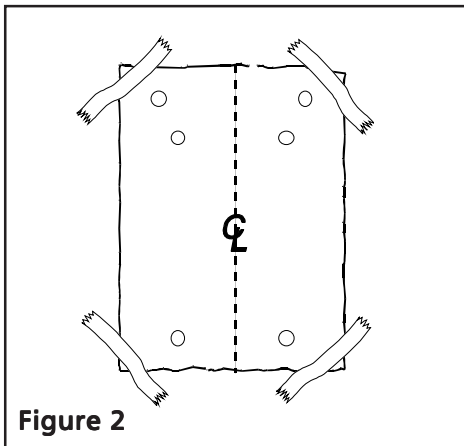

Figure 2
3. Tape template, matching center-line and hood bottom as shown in Figure 2.